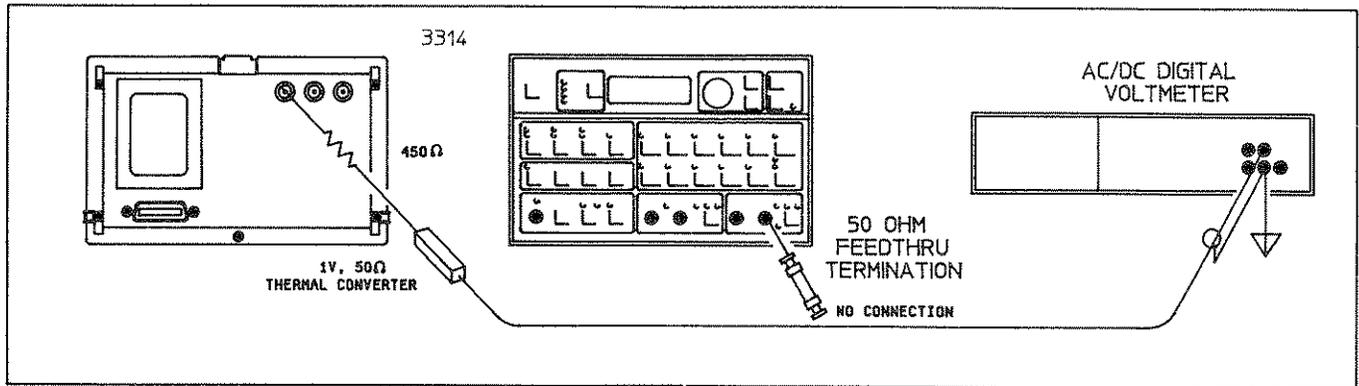

Figure 4-19. Sine Power Flatness Connections
C. Connect the 50 Ohm Feedthrough Termination to the 3314A's Main Output. Connect the Voltage Reducer and Thermal Converter to the 3314A's X3 Output as shown in Figure 4-19.